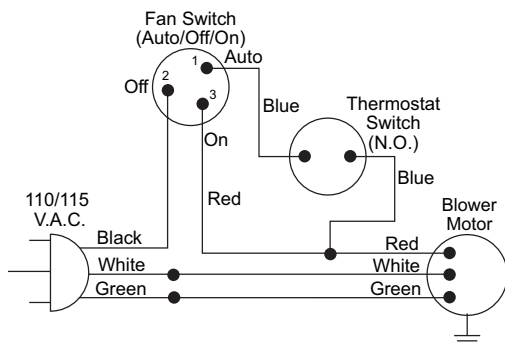

Figure 17 - Wiring Diagram For Blower Accessory Standard Installation
4. Carefully disconnect green and white wires at their insulated connectors (see Figure 17, page 15).